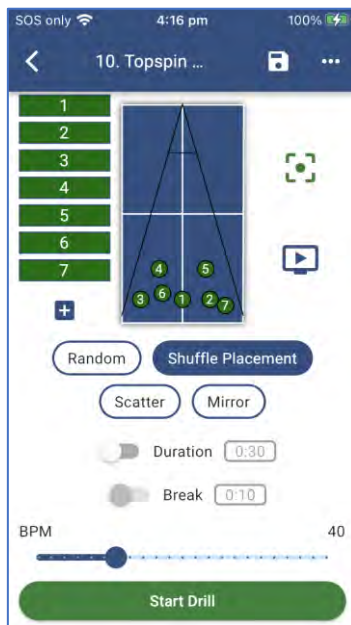

Figure 3-52
- Shuffle Placement** - The robot will treat the Ball settings (Speed, Spin, Sidespin, etc.) separately from the Ball Placement settings. When the Drill is started the Ball settings for Ball 1 will be used along with a randomly selected placement (from Balls in the Drill). Next, the Ball settings for Ball 2 will be used, with another randomly selected placement, and on and on. This feature creates many different variations within an 8-ball Drill. Random Sequence mode requires at least two Balls to be active and/or in a Drill. (Figure 3-52)